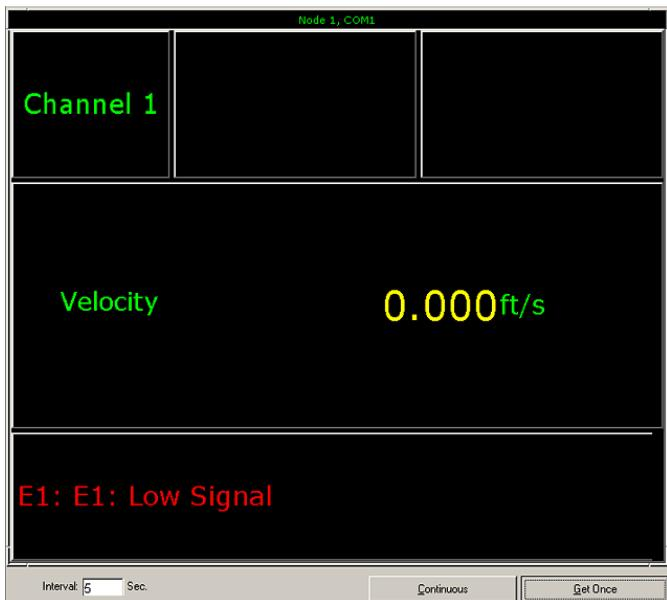

Figure 18: A Typical PanaView text display pane
The components of the PanaView text display are shown in Figure 18 below, along with a typical flow rate readout.
As shown in Figure 18 above, the PanaView text pane includes the following information:
Note: As shown in Figure 18 above, Error Code messages may appear in the lower left corner of the PanaView text display window.
- Enter an *Interval* in the text box at the bottom of the right pane in the *Text Display* window, or check the *Max. Comm Rate* box to collect readings as fast as the system allows (i.e., 1 sec). Then, click on the **[Continuous]** option button to begin collecting data for display in the right pane of the *Text Display* window. The right pane now appears similar to Figure 18 on page 24.